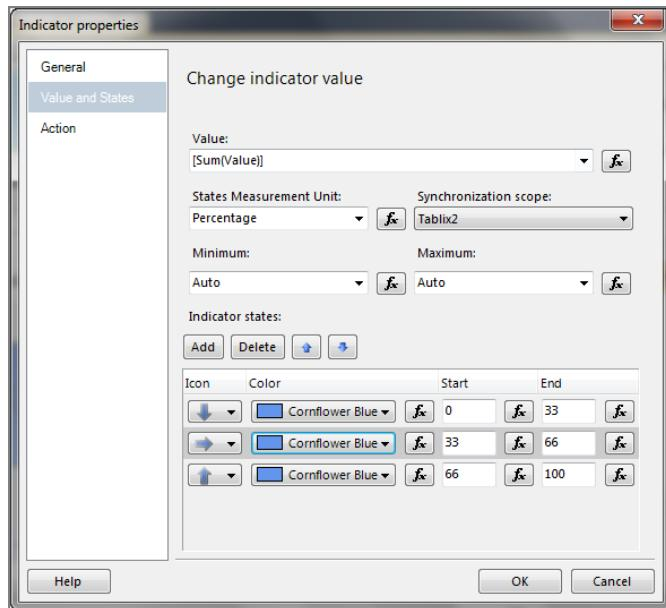

Figure 10-18
5. On the Value and States page, select the `Sum(Value)` as the Value for the indicator. Change the indicator color to Cornflower Blue and set the state ranges to 0–33, 33–66, and 66–100 (see Figure 10-18).